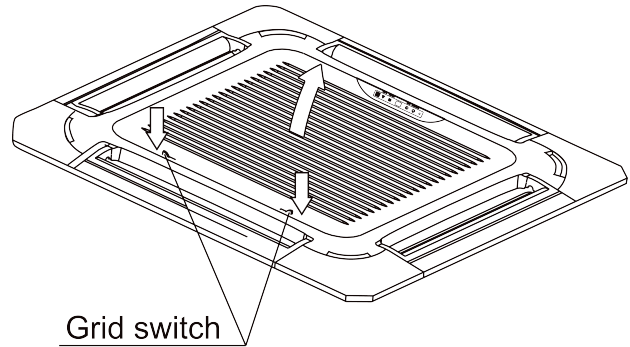

fig. 12.9
**(1) Remove the air inlet grill.**
- a. Slide two grid switches toward the middle at the same time, and then pull them up. (refer to fig. 12.9)